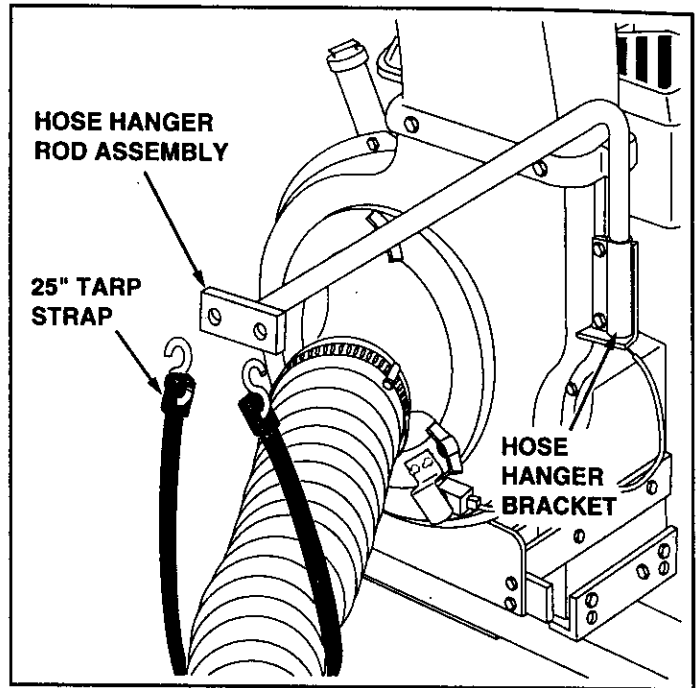

FIGURE 26
- Place the hose hanger rod assembly down into the hose hanger bracket on the impeller housing assembly. See figure 26.
- Loop the rubber tie strap under the hose. Fasten the hooks to the hose hanger rod assembly. See figure 26.